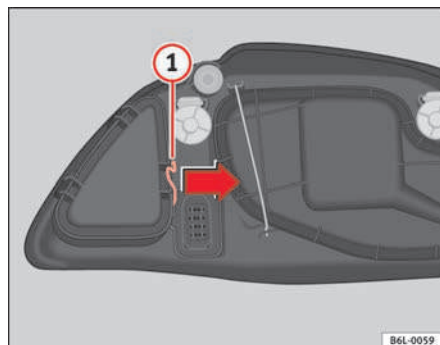

Fig. 146 Side lights
- Remove the loops ① ⇒ fig. 146 in the direction of the arrow and remove the cover.